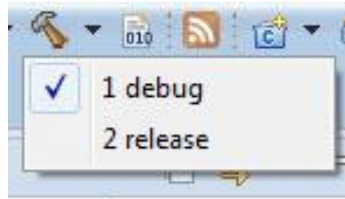

Figure 5 - Build targets
3. Choose build target by clicking on the arrow to the right of the "hammer" in toolbar, see Figure 5. When the target has been selected the project will be built. If target has previously been selected it is enough to click on the "hammer" icon.